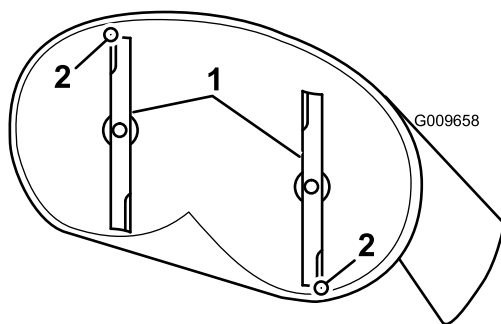
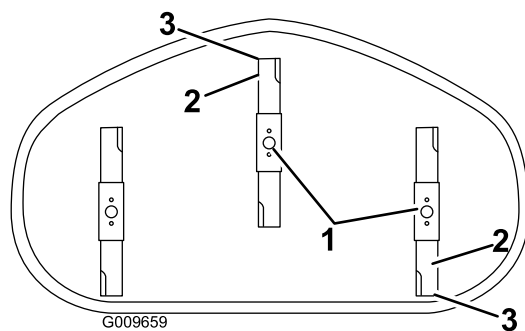

Figure 56
Figure 57
4. Carefully rotate the blades so they are facing front to rear (Figure 56 and Figure 57).
8. After adjustment, check the front-to-rear slope again. Continue adjusting the nut until the front blade tip is 1/16-5/16 inch (1.6-7.9 mm) lower than the rear blade tip (Figure 56 and Figure 57).
5. Measure from the tip of the front blade to the flat surface and the tip of the rear blade to the flat surface (Figure 56 and Figure 57). If the front blade tip is not 1/16-5/16 inch (1.6-7.9 mm) lower than the rear blade tip, adjust the front locknut.